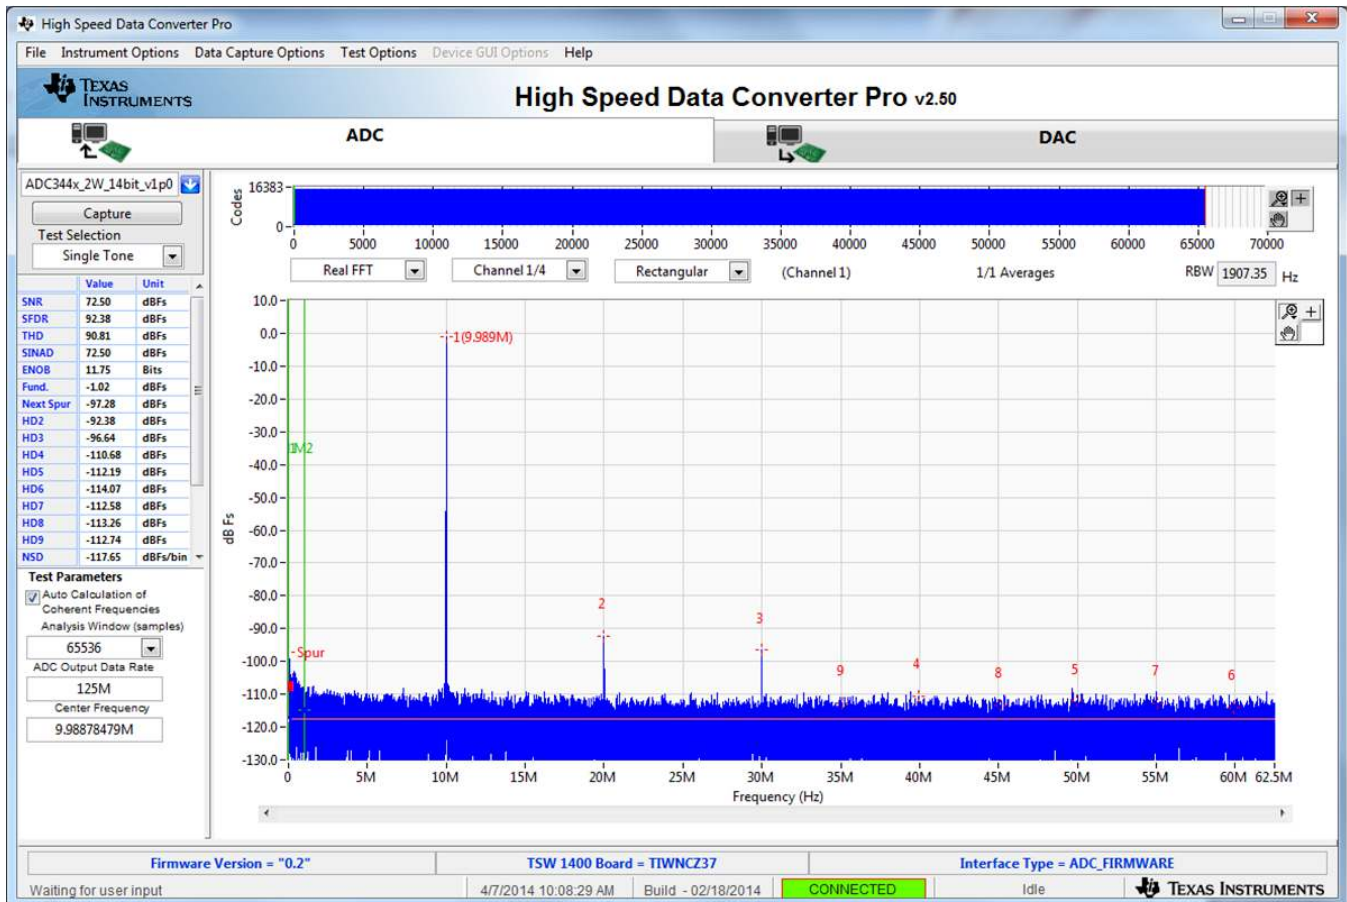

Figure 17. ADC3xxx Operating in 14-Bit Mode at 125 MSPS With a 10-MHz Input Signal
4. Select number of sample points (and resulting number of FFT bins) to be used. The example shown in Figure 17 has 65536 samples.
5. Enter the ADC32/34xx Sampling rate. The example shown in Figure 17 has the sample rate set at 125 MSPS (filtered clock input around 10 dBm).
6. Enter the input frequency desired. If the clock and input frequency signal generators are synchronized, then make sure the checkbox for coherent frequency is checked and set the input frequency signal generator to the input frequency displayed. The example shown in Figure 17 has the input frequency set at 10MHz (9.98878479MHz if coherent). Filtered signal input around 10 dBm – adjust to achieve –1 dBFs on the HSDC Pro FFT.
9. Observe an FFT result similar to that of Figure 17